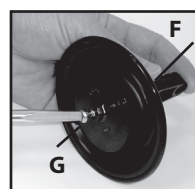

Figure 4
5. To replace the diaphragm, remove the connecting rod retaining screw (G) from the plunger and lever (F). Replace the diaphragm and reassemble. See Figure 4.
6. The valve assembly (H) is removed using a locally made tool. Remove red valve plate retaining pin using needle nose pliers, then insert tool into slots. Use a screwdriver to rotate tool counter clockwise.